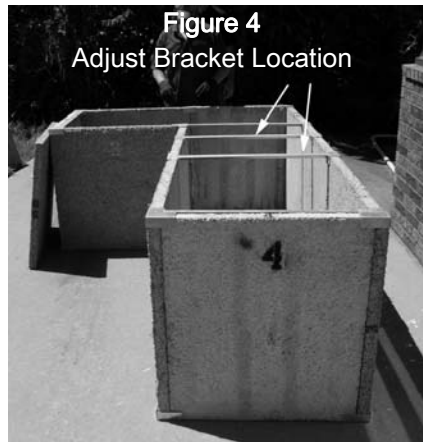

Figure 4
5. Before installing top, determine if any appliances are going to be placed across a joint line, where a welded top bracket would be placed, and if so, simply move the bracket to one side or the other of the joint and/or the appliance's desired location (refer to Figure 4).